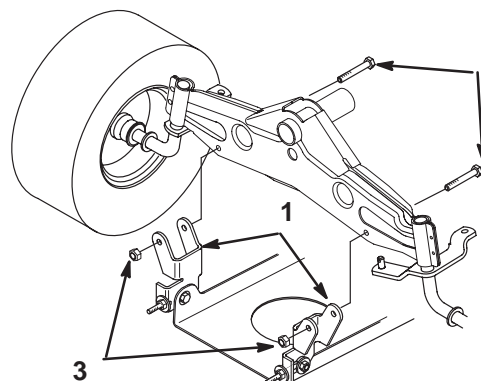

Figure 39
6. Remove the bolts and lock nuts and pull the two mower pivot mount brackets down from the front axle (Fig. 39).